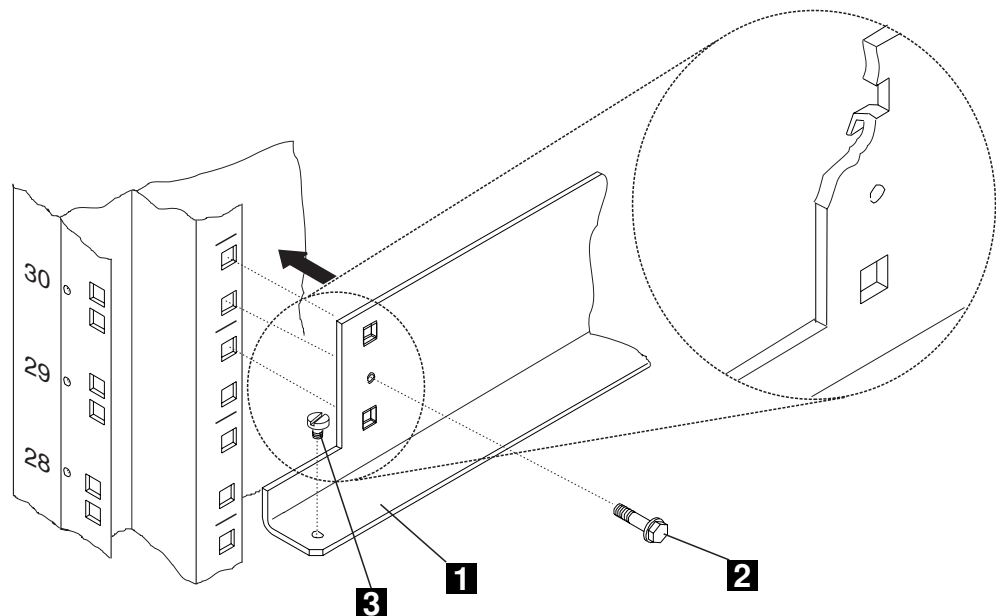
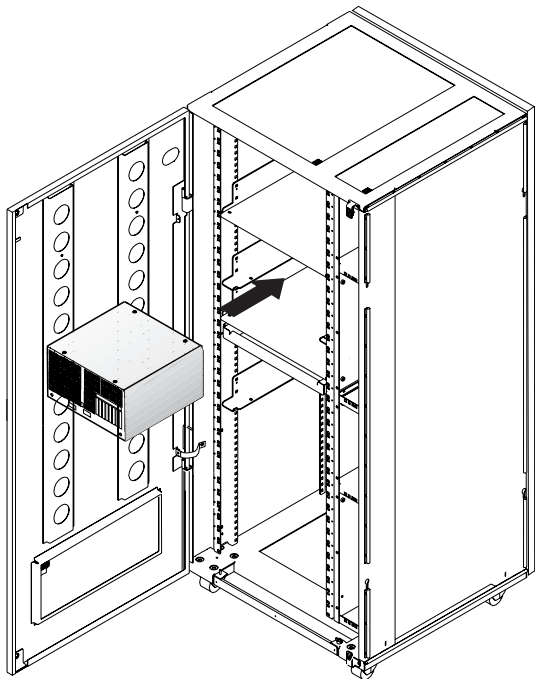
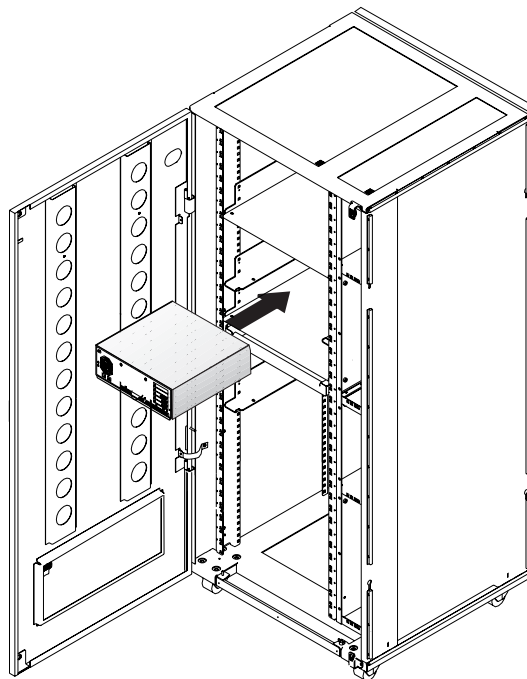

Figure 18. Installing Brackets PN 58G5752.
Figure 19. Installing the SP Unit type 3172 (Rear Side).
Figure 20. Installing the SP Unit type 9577 (Rear Side)
- 6. Slide the Service Processor on the brackets as shown in Figure 19 or Figure 20 Then, secure it using 4 screws **3** (PN 0782986), see Figure 18 on page 17.